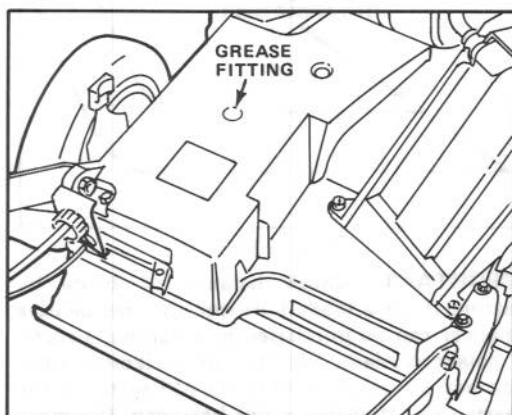

Figure 21
2. Install grease gun onto fitting thru belt cover opening (Fig. 21). Gently apply 1-2 pumps of grease.